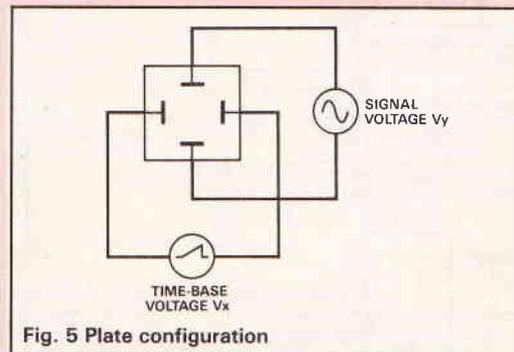

Fig. 5 Plate configuration
**C**RTs are just big valves, and as such need to be biased in the same way. They have a cathode exactly the same as a valve. They have a single grid (actually a disc with a hole in it). They also have two or three anodes, labelled A1, A2 and A3. A1 is closest to the cathode and A3 the furthest. These anodes form what is called an 'electron lens', a means of focusing the beam to converge at the face of the tube. The entire assembly so far described is called an electron gun and it's purpose is to generate a beam of electrons. The electrons generated by the gun are sent towards the face of the tube. The tube face is covered with phosphor, a substance that glows when hit by electrons. As the beam travels towards the tube face it can be bent or deflected by the use of metal plates. These plates run parallel to the beam and have a voltage applied to them. As the beam carries a negative charge it will be repelled from a plate with a negative charge and attracted towards a plate carrying a positive charge. In practice there are two sets of two deflection plates (see Figure 5). One set shifts the beam in the X axis and the other shifts in the Y axis. As the beam is affected by charge, no current is drawn by these plates. Any CRT will have a 'deflection sensitivity' in mm/V. This is the spot deflection on the face of the tube for 1V across the plates. A typical figure is 0.5 mm/V, this means that a signal of several hundred volts peak-to-peak is required to give a trace that spans the tube face. This form of deflection is known as 'electrostatic', the other kind being 'electromagnetic'. Electromagnetic is only used on TVs, scopes always use electrostatic.